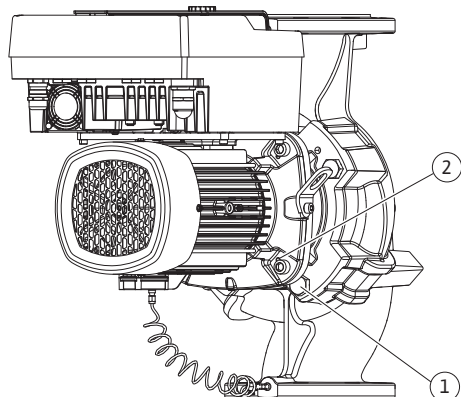

Fig. 104: Pushing off the motor impeller unit via threaded holes (depending on pump type)
23. Pull the motor impeller unit off the pump housing. Use the two threaded holes (see Fig. 104, Item 1) for this purpose.
33. To push the motor impeller unit off the pump housing, use the two adjacent threaded holes (Fig. 104, Item 1) and use suitable screws provided on-site (e.g. M10 x 25 mm).